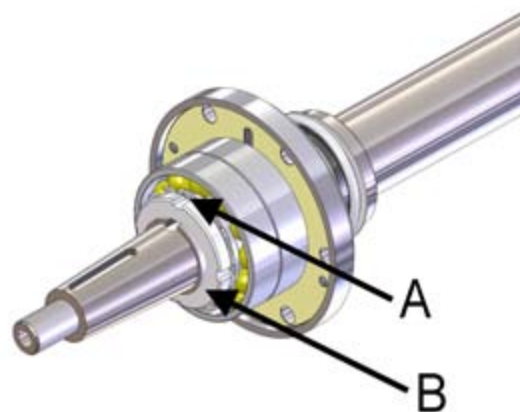

Figure 7. Removing the safety plate
7. Turn the safety plate latch (figure 7, point A) up from the spinner nut groove, and unscrew the spinner nut (figure 7, point B).